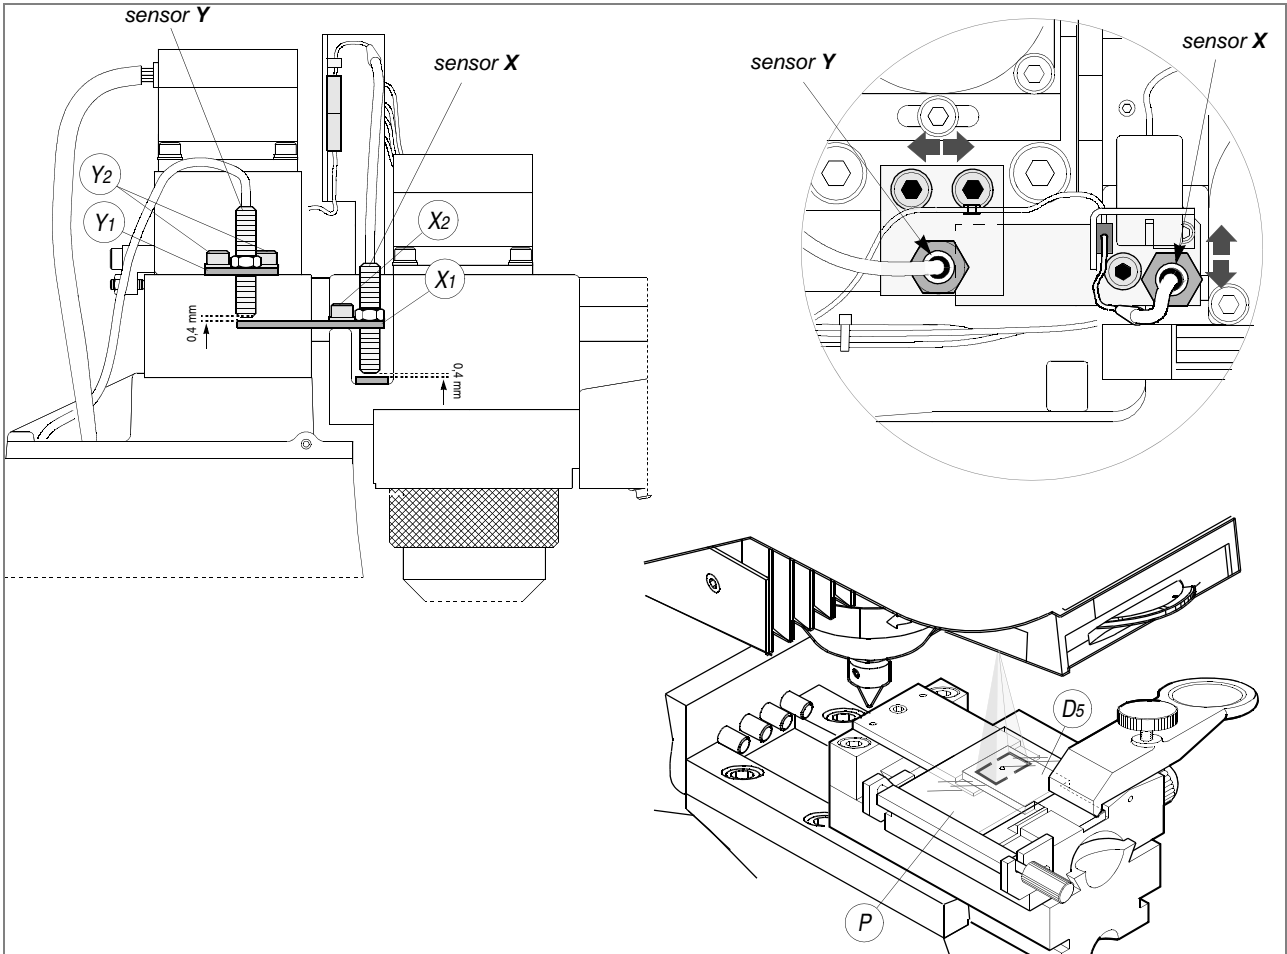

Fig. 29
- 2) loosen the screws (X2) securing the plate (X1) (fig. 29).
- 4) loosen the screws (Y2) securing the plate (Y1) (fig. 29).
WARNING: position the glass slide (P) over the key (fig. 29).